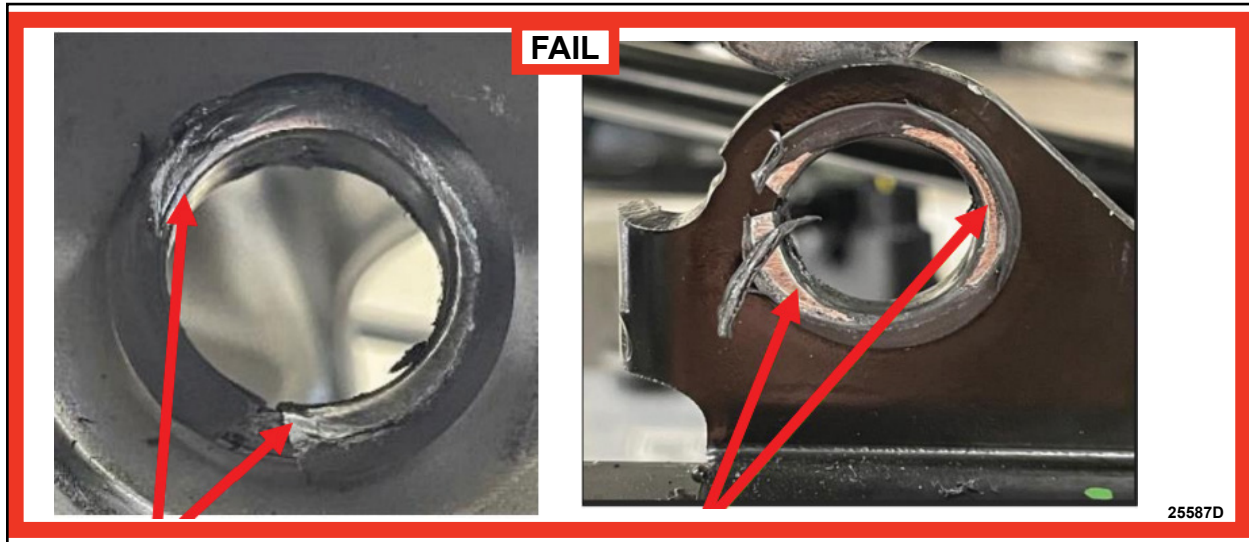

FIGURE 4
6. Remove the height-adjust pivot bolt and link that failed the torque check and inspect the bushing in the seat frame for damage. Is there damage? See Figures 4 and 5.